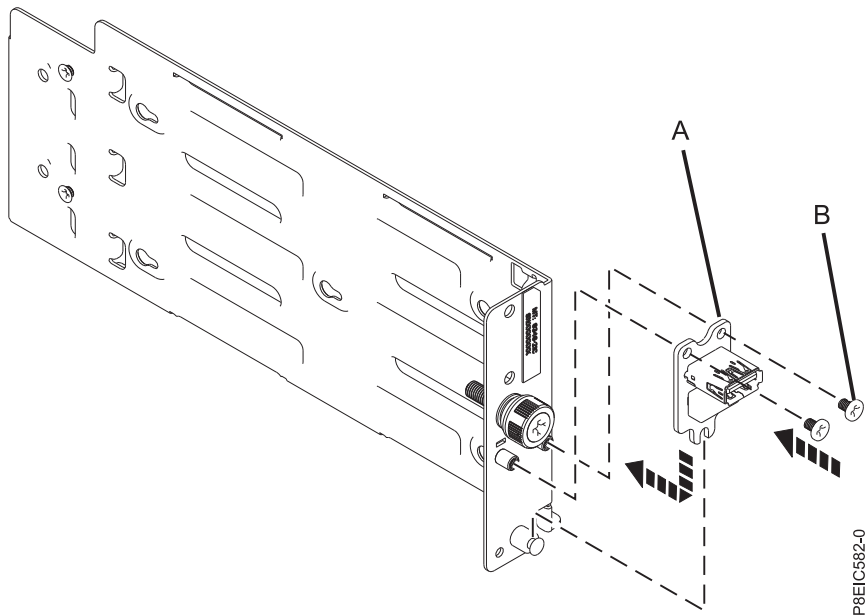

Figure 110. Replacing the USB card
2. Using the alignment pin, lower the USB card (A) and cable into the holder; replace the two screws (B) to secure the USB card, as shown in Figure 110.